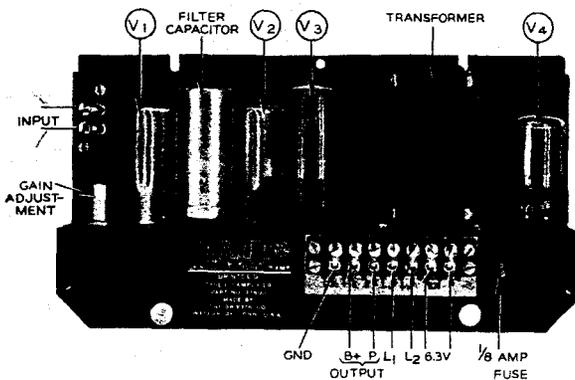

FIGURE 11. SERIES C-1 AMPLIFIER
3. **The Amplifier.** Plug Dynaprobe into terminal block and apply test prongs across the input terminals of the amplifier (see Figure 11). If amplifier is working properly, the balancing motor will move the pen up or downscale (depending upon phase). Reversing the two test prongs will cause the balancing motor to move the pen in the opposite direction. If the balancing motor does not move the pen up or downscale, disconnect the input leads to amplifier and check again with the test prongs across input terminals to amplifier. If the balancing motor still does not move the pen up or downscale, check fuse in amplifier, replace vacuum tubes and filter capacitor in amplifier. If this does not work, replace the amplifier.